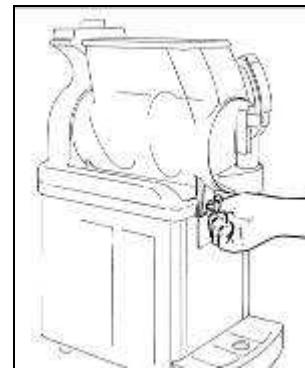

Fig. 25
- Fix the bowl by reinsert the knobs (fig.25).